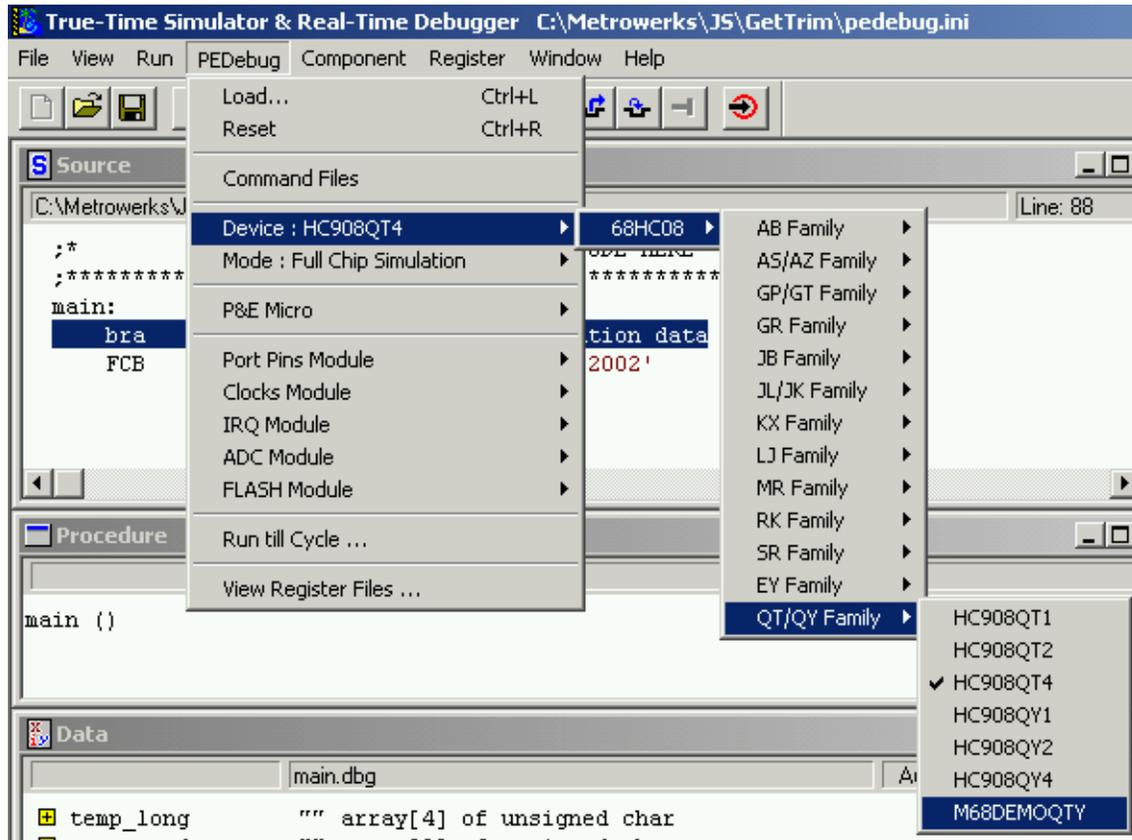

Figure 6. PEDebug Pulldown Menu for Device and Mode Selection
11. From the PEDebug pulldown menu select Device: M68DEMOQTY. (Figure 6)
- From the PEDebug pulldown menu select Device: M68DEMOQTY. (Figure 6)